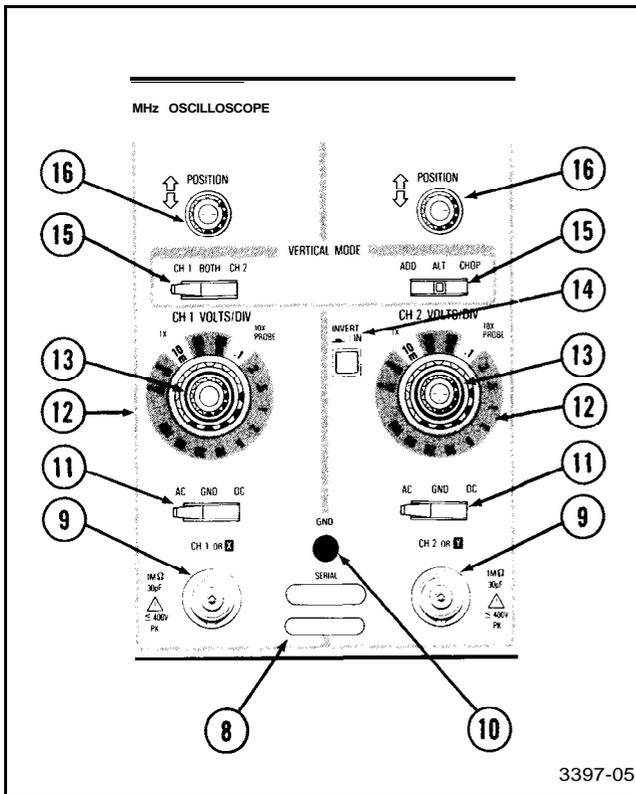

Figure 4. Vertical controls and connectors.
Refer to Figure 4 for location of items 8 through 16.
- ⑧ **SERIAL and Mod Slots**-The SERIAL slot is imprinted with the instrument's serial number. The Mod slot contains the option number that has been installed in the instrument.
- ⑨ **CH 1 OR X and CH 2 OR Y Connectors**-Provide for application of external signals to the inputs of the vertical deflection system or for an X-Y display. In the X-Y mode, the signal connected to the CH 1 OR X connector provides horizontal deflection, and the signal connected to the CH 2 OR Y connector provides vertical deflection.
- ⑩ **GND Connector**-Provides direct connection to instrument chassis ground.